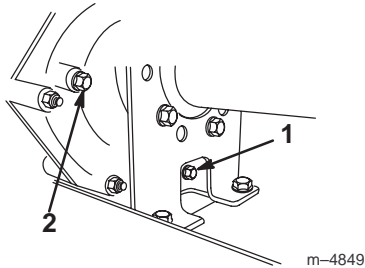
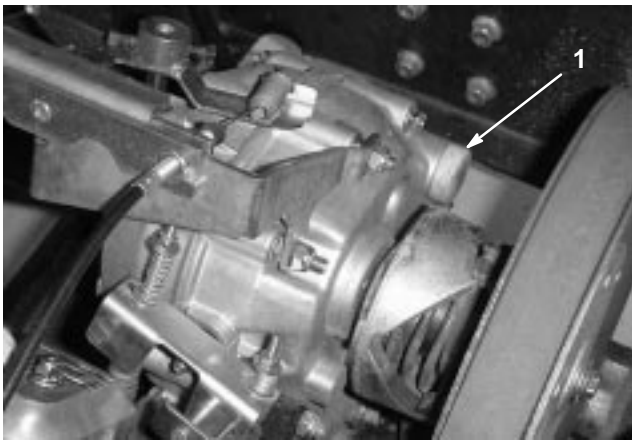

Figure 40
Figure 41
2. Remove the drain plug from the right side of the reservoir (Fig. 40) and let the fluid flow into a drain pan. Install and tighten the plug when the fluid stops draining.
3. Fill the reservoir (Fig. 41) with approximately 1-1/2 qt. (1.4 liters) of SAE 10W30 motor oil or until the oil level is at the bottom of the level indicator hole (Fig. 40).